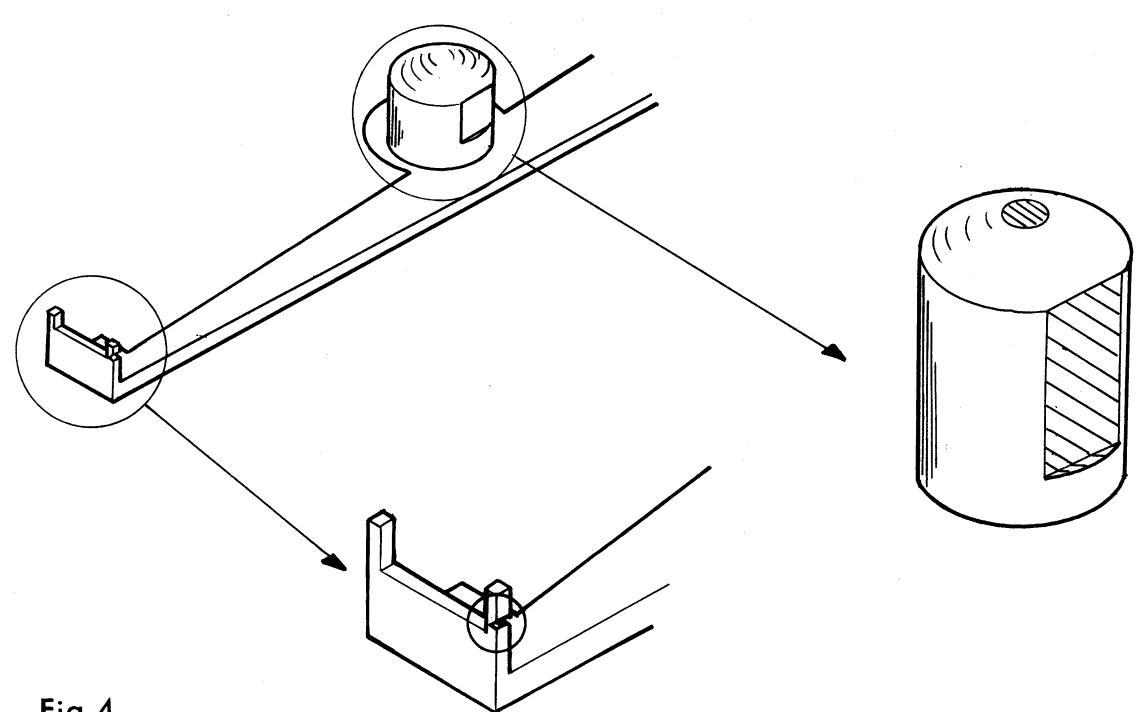

Fig 4
1. If the claw or claw pin are worn-out as shown in Fig.4, replace them.